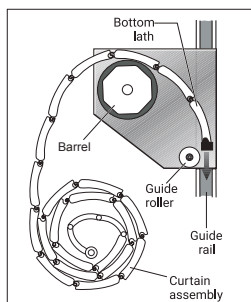

Figure 12
- 6.3.3 Feed the bottom lath over the top of the barrel and down between the guide rails (see Figure 12) taking care not to scuff the curtain assembly. Proceed until the full curtain has been fed over the barrel and the bottom rail reaches the floor.